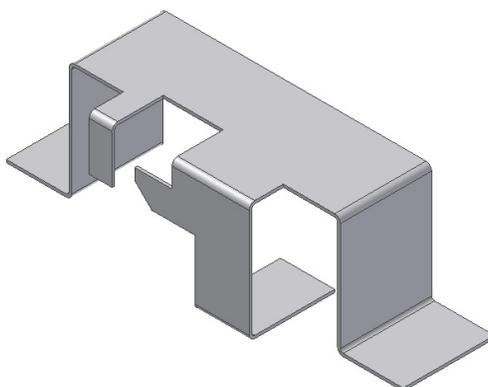

Figure 15-104 Model after creating the flange
5. Accept the remaining default options and choose the **OK** button to create the flange and exit the dialog box. The sheet metal component after creating the flange is shown in Figure 15-104.